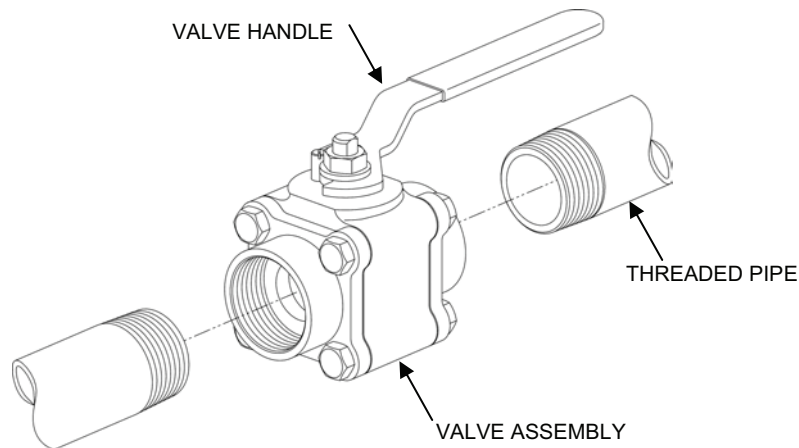

Figure 6. Threaded Ball Valve Replacement.
2. Remove the threaded ball valve from the pipe line as follows (see Figure 6):
- a. Make sure that the valve is in the open position (as shown in Figure 6).